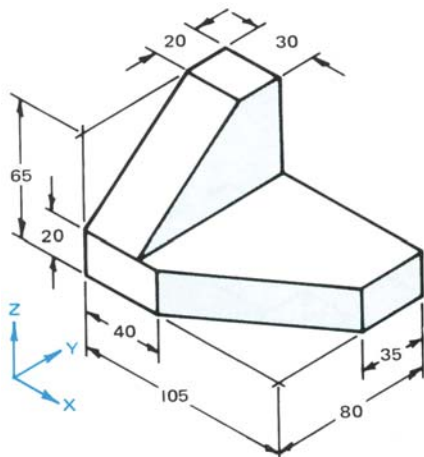

Figure 12: Angle Plate
1. Choose one part from figures 12 and 13, and create a 3D CAD file of the part. Convert the CAD file to an STL file.
3. Measure and record key dimensions identified in figures 12 and 13.